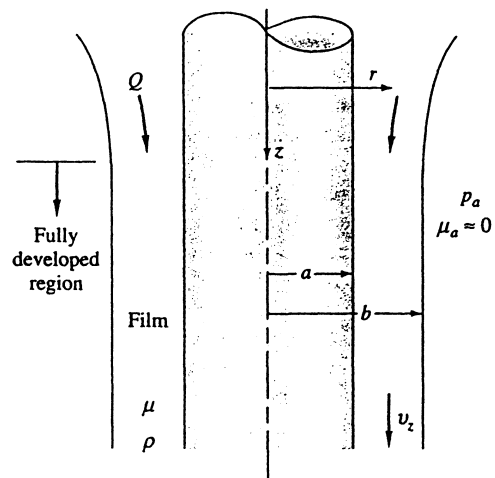

Fig. P4.84
**4.84** Consider a viscous film of liquid draining uniformly down the side of a vertical rod of radius  $a$ , as in Fig. P4.84. At some distance down the rod the film will approach a terminal or *fully developed* draining flow of constant outer radius  $b$ , with  $v_z = v_z(r)$ ,  $v_\theta = v_r = 0$ . Assume that the atmosphere offers no shear resistance to the film motion. Derive a differential equation for  $v_z$ , state the proper boundary conditions, and solve for the film velocity distribution. How does the film radius  $b$  relate to the total film volume flow rate  $Q$ ?